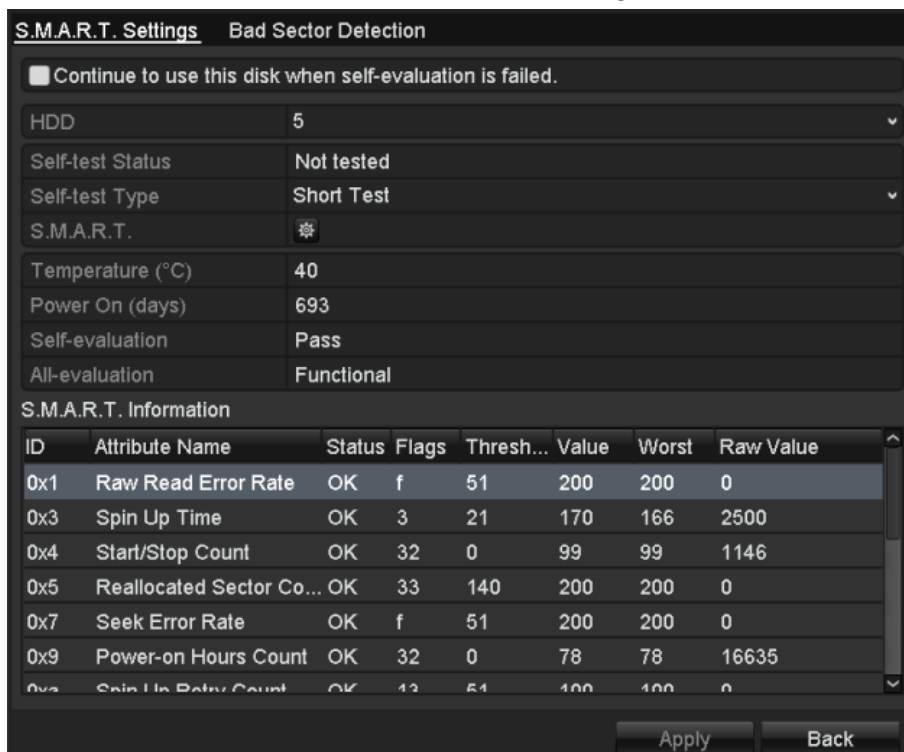

Figure 11. 27 S.M.A.R.T Settings Interface
2. Select the HDD to view its S.M.A.R.T information list, as shown in Figure 11. 27.